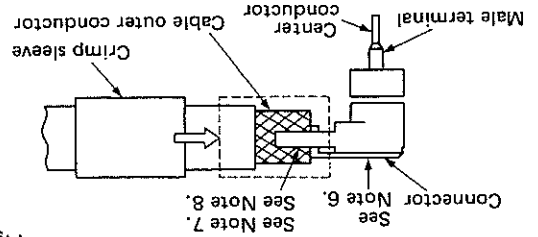

Fig. 5
(2) Bend the connector lid, as shown in Figure 5. Note 6: Directly press the lid to bend it. Do not hold the connector by the connector shell when bending the connector lid.
(3) Slide the crimp sleeve further in up to the base of the support bar. (Fig. 5 dotted line section)